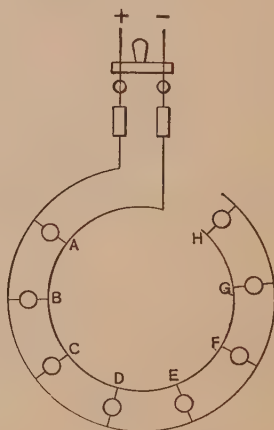

FIG. 73.
**Prob. 23.** If the wiring of Problem 22 were arranged as in Fig. 73, and all the data were the same as in Problem 22. Find: